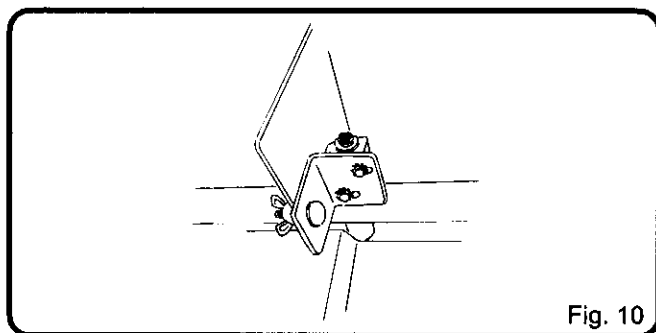

Fig. 10
2. To adjust the horizontal alignment, loosen the two 1/2" hex head bolts holding the mounting bracket to the support bracket. *See Figure 10.* Reposition the blade guard assembly so that the blade guard assembly lines up with the saw blade. Securely tighten bolts.